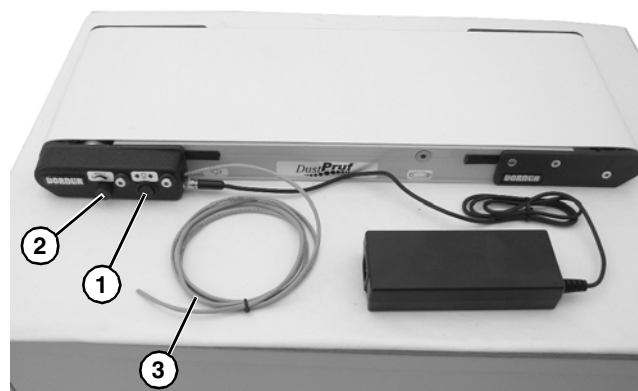

Figure 27
2. Select conveyor running direction with directional switch (Figure 27, item 1).
3. Select conveyor speed with speed control knob (Figure 27, item 2).
4. Remote start/stop cable (Figure 27, item 3) comes with wire nut over remote leads to allow test running conveyor.